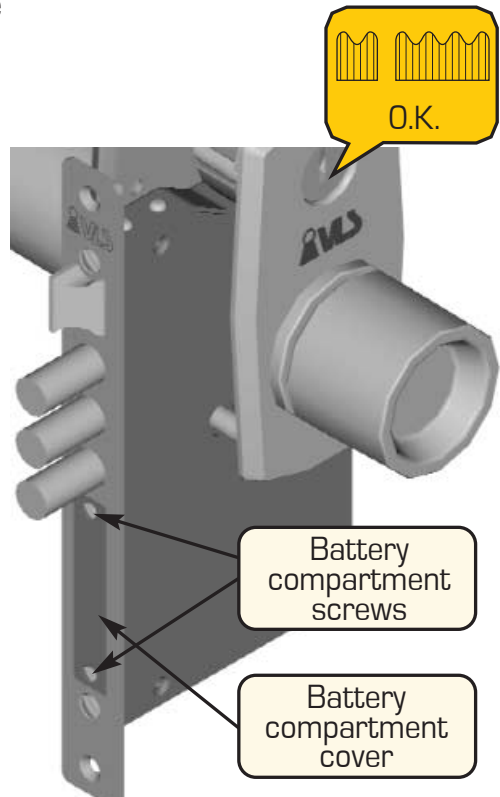

Figure 9 – Installation of the Batteries
- Using a screwdriver, unscrew the two fixing screws from the battery compartment cover on the lock end surface (fig. 9).
- Holding those two screws, remove the cover and take out the battery compartment from the lock body (fig. 9).